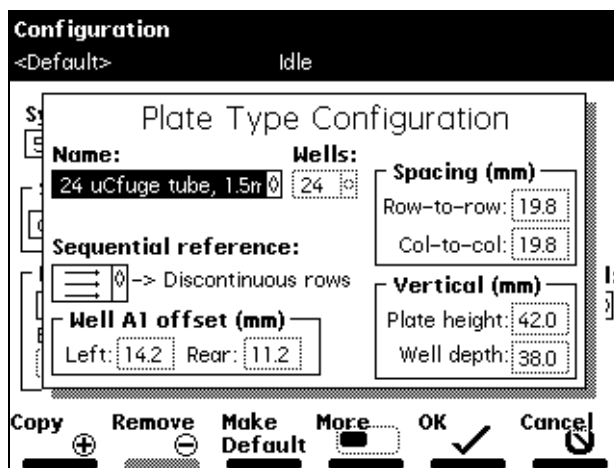

Figure 3-12 Plate Type Configuration Dialog Box
1. In the Configuration screen, press the **Plate Types** screen key to display the Plate Type Configuration dialog box (Figure 3-12).